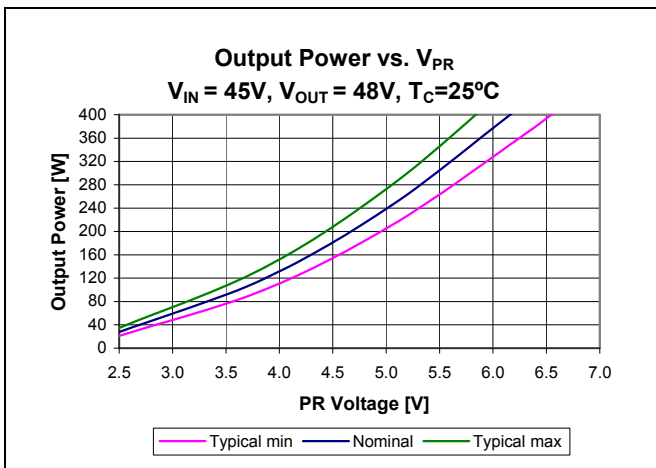

Figure 21 – Output Power vs.  $V_{PR}$ ;  $V_{IN} = 45\text{ V}$ ,  $V_{OUT} = 48\text{ V}$ ,  $T_{CASE} = 25^\circ\text{C}$
**Control node (PR)** is the input to the control node which determines the powertrain timing and ultimately the module output power (Figure 21). An internal 0.5mA current sink is always active. The bi-directional buffer between PR and the control node has two states. In normal operation, PR will be above the 0.79V switching threshold, and will drive the control node through the buffer. An internal 7.4V clamp determines the maximum output power that can be requested of the modulator.